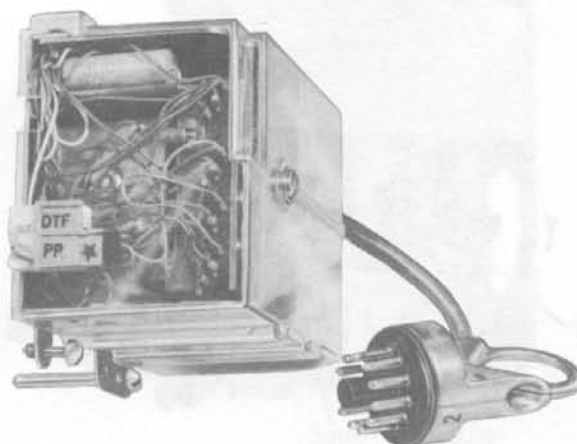

Fig. 10 — 1A Totalizer
- (1) Unscrew three captive-type mounting screws (Fig. 10) from chute.
- (2) Carefully remove totalizer from chute.